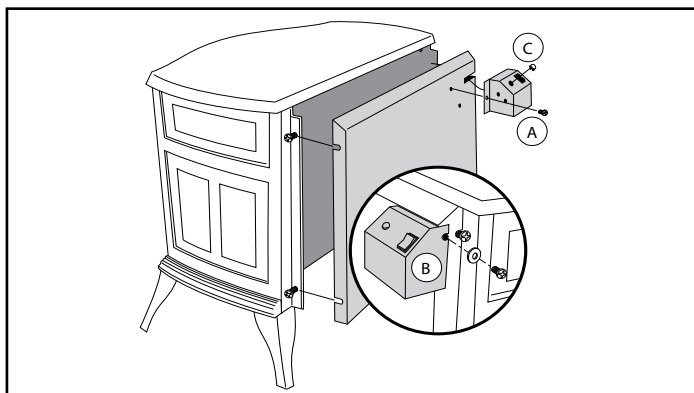

Figure 2 - Remove rear shroud and switch box.
1. Remove the Rear Shroud. Use work gloves to protect against sharp edges. Loosen the two (2) screws on each side just enough to disengage the shroud panel from the sides of the stove. (Figure 2)
2. Remove the switch box (Figure 2)